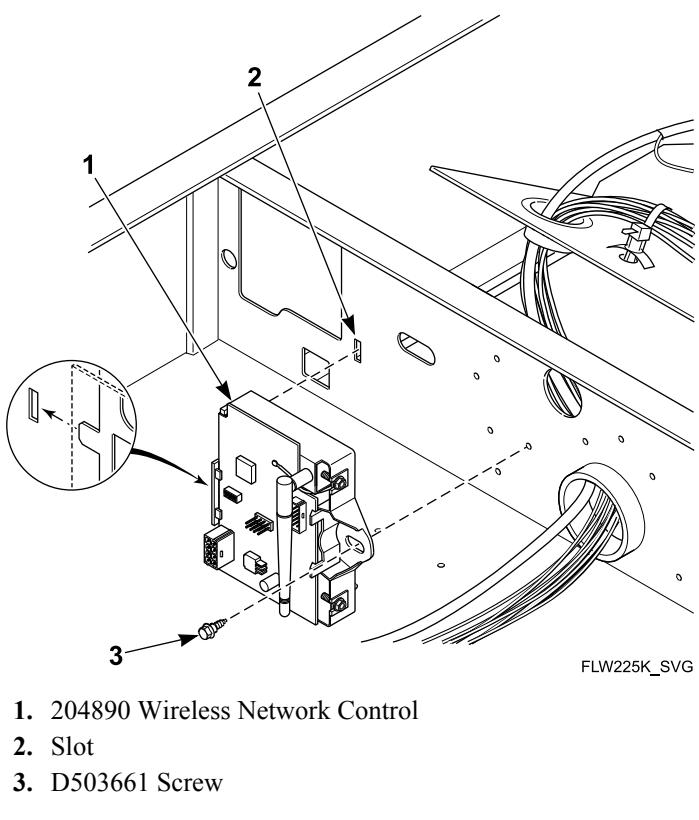

Figure 5
6. Place the tab on 204890 Wireless Network Control into slot in front bulkhead and secure opposite end with one D503661 Screw. Refer to *Figure 5*.